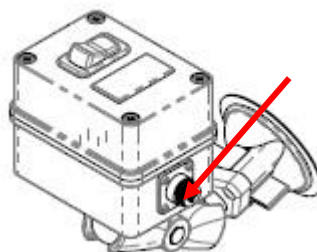

Figure 134
- The control box with harness connector, Figure 134